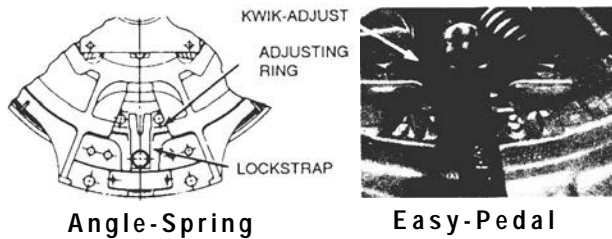

FIGURE 2
- B. Adjust the clutch **internally to get 7/2" to 9/16" release**. This is done by turning the adjusting ring as shown in Fig. 2 (measurement taken with pedal in the "Up" position).
- A. To check this insert a .010" feeler gauge or business card between the release bearing and clutch brake (refer to Fig. 2). Depress the clutch pedal and squeeze the card. Let the pedal up slowly. Stop when the card can be pulled out. The pedal should be 1/2" to 1" from the end of pedal stroke.